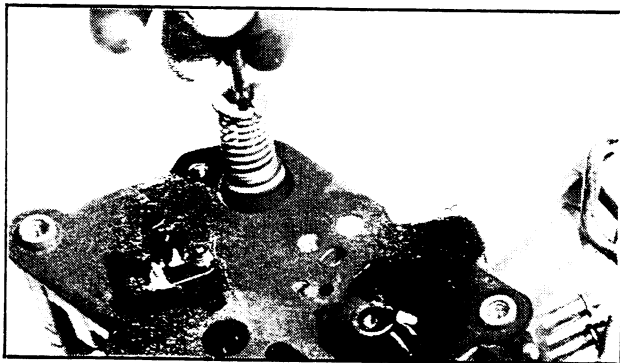

Figure 6C-136
9. Reinstall air horn assembly ensuring accelerator pump push rod passes through correct hole in air horn and gasket is correctly seated (Fig. 6C-137).